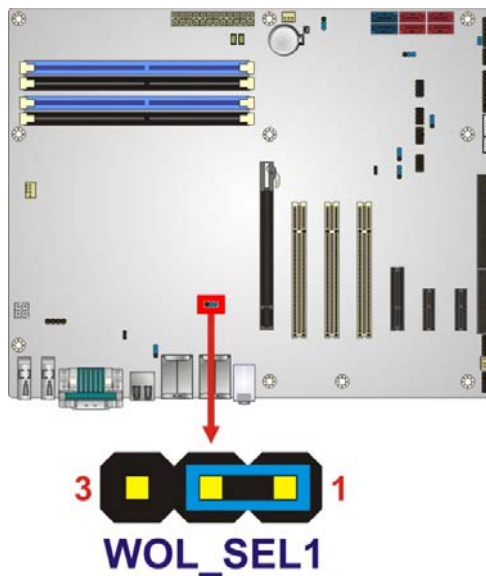

Figure 4-13: Wake-on LAN Connector Pinout Location
- CN Location:** See **Figure 4-13**